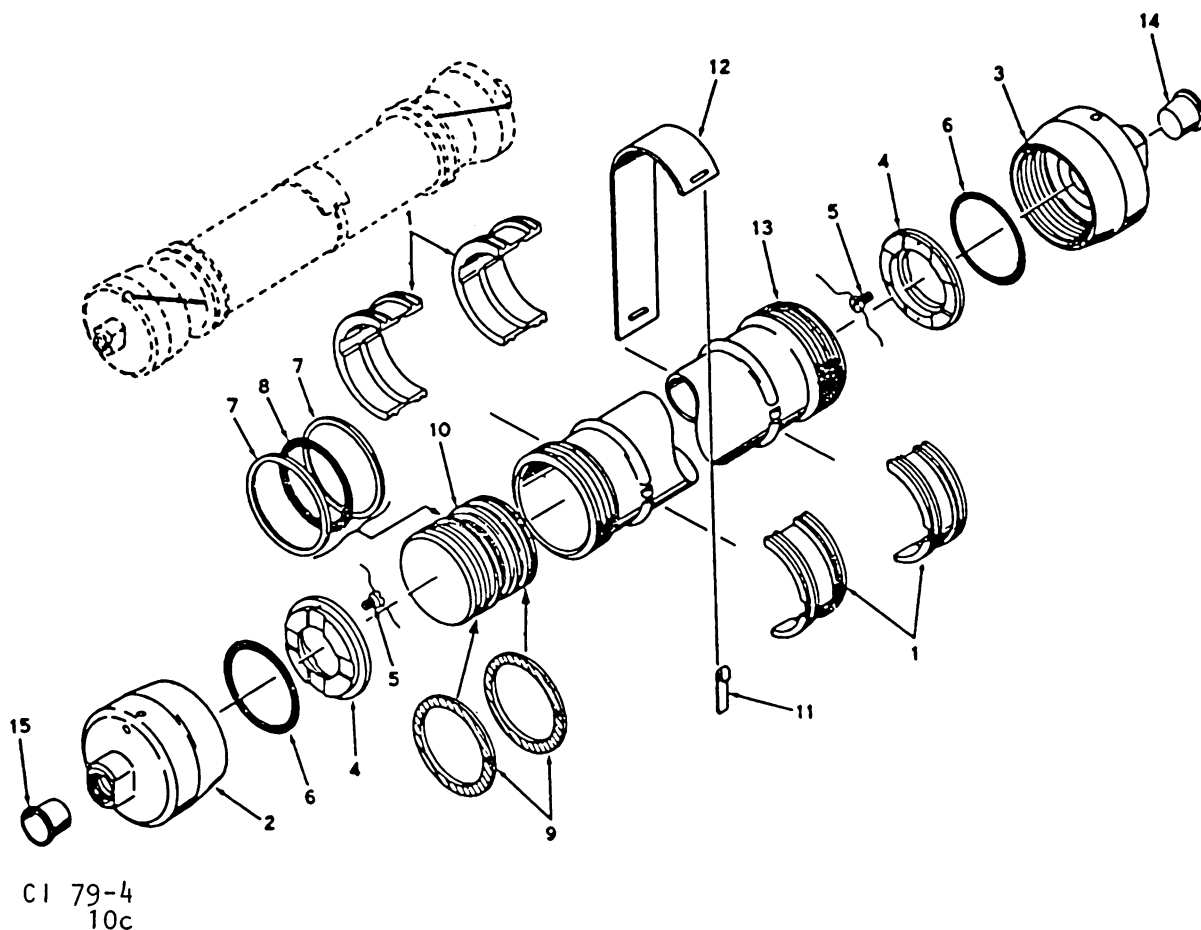

Figure 1-9. Accumulator breakdown.
Bench Check and Repair of Accumulator. One of the items that you may frequently have problems with is the system accumulator. Since the principle of operation is very simple, accumulators do not generally malfunction mechanically; but they are known to leak both internally and externally. Let's assume that the accumulator in the system is found leaking internally. You remove it and take it to the shop for repair. (Caution: Insure that the air pressure has been released prior to disassembly.) During disassembly install the accumulator in a suitable holding device. The holding device should be designed so that it encases with nearly equal tightness the entire circumference of the accumulator shell. Uneven tightness such as vise jaws could distort the shell. Disassemble the accumulator in the sequence of index numbers assigned to the exploded view in figure 1-9. If the identification band (12) is removed, it must be kept with the unit from which it was taken; it bears the serial number and part number. Now clean all metal parts in the proper cleaning solvent specified in the technical order. Dry the parts thoroughly with filtered, compressed air. After cleaning, inspect the inside diameter of the shell (13) and outside diameter of the piston (10) for scratches, burrs, or other damage which would affect the free sliding action of the piston in the shell. Inspect the shell, piston, retainers (4), and end caps (2 and 3) for cracks, deformation, or any other structural damage. Check threads for condition. Conduct a nondestructive inspection of the end caps using fluorescent penetrant inspection. Inspect the shell using magnetic particle inspection. After inspecting the various components of the accumulator, repair or replace them as necessary. Do not attempt, though, to repair the inside diameter of the shell because low spots can affect the operation. Replace all seals